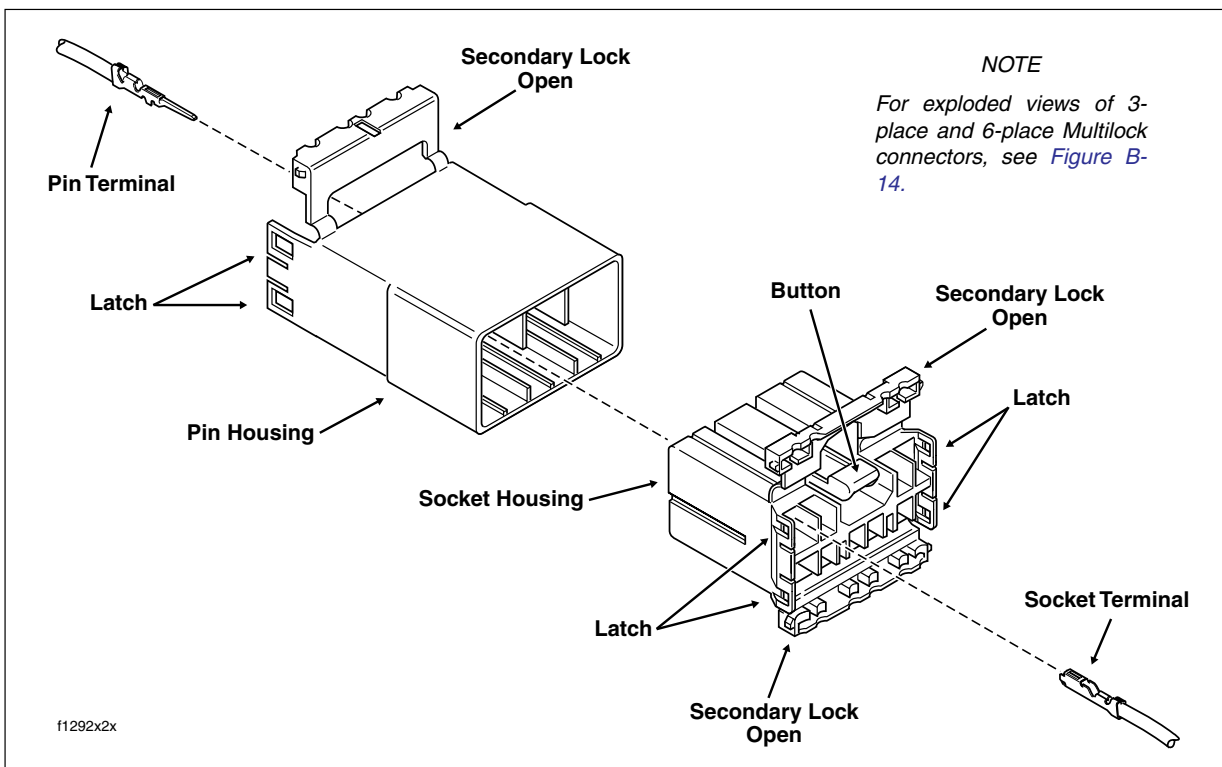

Figure B-10. 10-Place Multilock Connector (Exploded View)
2. Depress the button on the socket terminal side of the connector (plug) and pull apart the pin and socket halves. See Figure B-10.